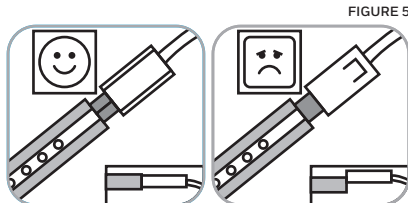

FIGURE 5
- Connect a linking cord by placing the exposed male connector of the linking cord into the matching female connection point on the installed Bright Strip (see Figure 5).
5. Connect the LED Driver to the Bright Strips by placing the female connector of the linking cord coming from the LED Driver onto the male connection point of the first Bright Strip in the chain, ensuring the connector is flush with the fixture. Snap the clear securing tab over the connection point (see Figure 5 & 6).